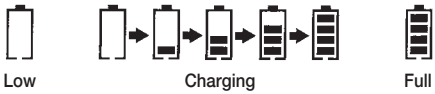

Figure 6
- When the handpiece is on the base and the charging base is properly connected to an AC power source the LCD shows only the battery level indicator. If the battery is recharging, the black bar in the battery icon will cycle from low to high (Figure 6).
The LCD displays information about the battery status in a battery shaped icon. Black bars in the icon indicate the battery level (see Figure 6). Bars are a relative indicator of battery strength.
- When the handpiece is properly seated in a powered charging base, the LCD battery icon will display one of the following: (see Figure 6).